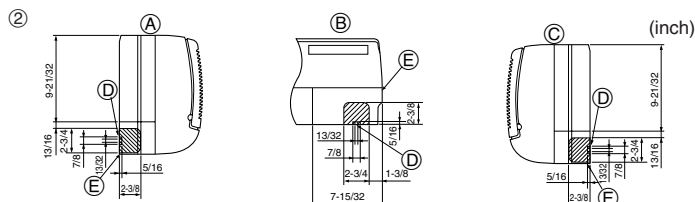

Fig. 4-3
- ② Determine the position of the knockout holes on the unit body. (Fig. 4-3)